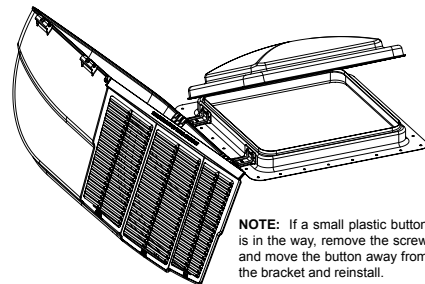

Figure 6
2. With the louvers facing the rear of the vehicle, slide the **FANMATE®** up against the side of your roof vent or fan as shown in Figure 6. Center the brackets front to back on vent side wall.